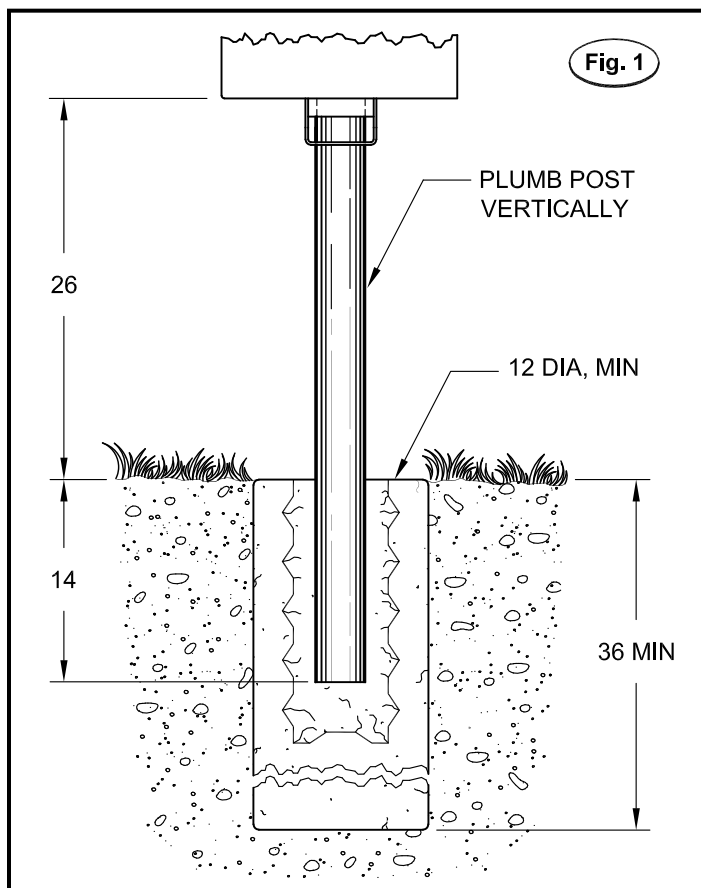

Fig. 1
1. Use a post hole digger to make a hole a minimum of 12" dia. x 36" deep. Fill the hole with concrete (see Fig. 1).
2. Take the end of the Post Base that has 2 holes in it and place the opposite end into the concrete. Install the Post 26" above ground level and plumb vertically (see Fig. 1). Allow the concrete to cure before installing the Grill on the Post.
NOTE: Figs. 1 & 2 show a grill design without a reinforcement ring on the bottom of the grill box. Models A-20 and B-24 do have a reinforcement ring and it works best to insert the Locking Pin from the back side of the Grill. Pass the Pin under the ring and angle up slightly to the swivel hole. On Models C2-36 and N2-2032 the Pin is inserted through the